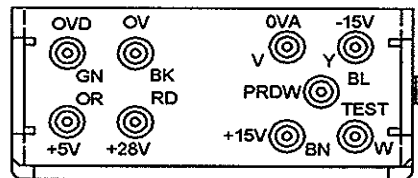

Figure 2 – Terminals Power Supply Module
- (1) Refer to the LGCIU CMM, DISASSEMBLY page 301. (IPL Fig.2)
- (2) Remove OBRM and all PCBs (30, 35, 40, 45, 50 and 55). Use the instructions in the CMM DISASSEMBLY page 301.
- (3) Place the Microprocessor PCB (55) and Output PCB (45) aside as they will not be refitted.
- (4) Remove the left-hand side cover (Looking at the FRONT of unit). Use the instructions in the CMM DISASSEMBLY, page 301.
- (5) Remove the right-hand side cover (Looking at the FRONT of unit). Use the instructions in the CMM DISASSEMBLY, page 301.
- (6) Find the two bonding leads fitted to the Rear Panel (270). Remove M3 nut (285) and washer (295) and keep. Remove bonding leads from M3 screw (280).
- (7) Remove the three countersunk head M3 screws (150) securing the Power Supply Module (145) to the Power Supply and Filter Panel Assembly (135). Note: The top two countersunk screws (150) are secured by nut (155), lock washer (160) and plain washer (165).
- (16) Secure and make good wiring looms as previously noted with braiding lace.
- (17) Take two black bonding wires (Ring terminations) fitted to Filter Panel Assembly, identified at Paragraph 3. C. (3). Fit the ring terminations bonding wires to M3 screw (280) fitted to the Rear Panel (270) and secure with M3 nut (285) and washer (295) kept at Paragraph 3. B. (6).
- (18) Take new Power Supply Module (PNR: 002PM020000). Place and support the Power Supply Module into position with the Filter and Power Supply Assembly (135). Refer to Figure 2 below. Take the wires unsoldered at Paragraph 3. B. (8) and resolder wires to the new Power Supply Module.